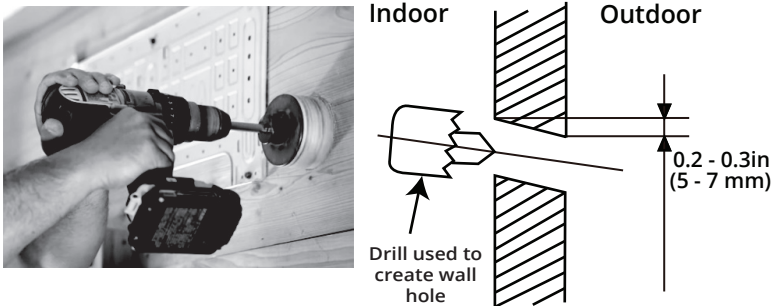

Fig. 4.3
2. Using a core drill, with a 3.54 in (90 mm) diameter, drill a hole in the wall at a slight downward angle, so that the indoor end of the hole is higher than the outdoor end of the hole, by approximately 0.2 in to 0.275 in (5 mm to 7 mm). This will ensure proper water drainage from the indoor unit (**See Fig. 4.3**).